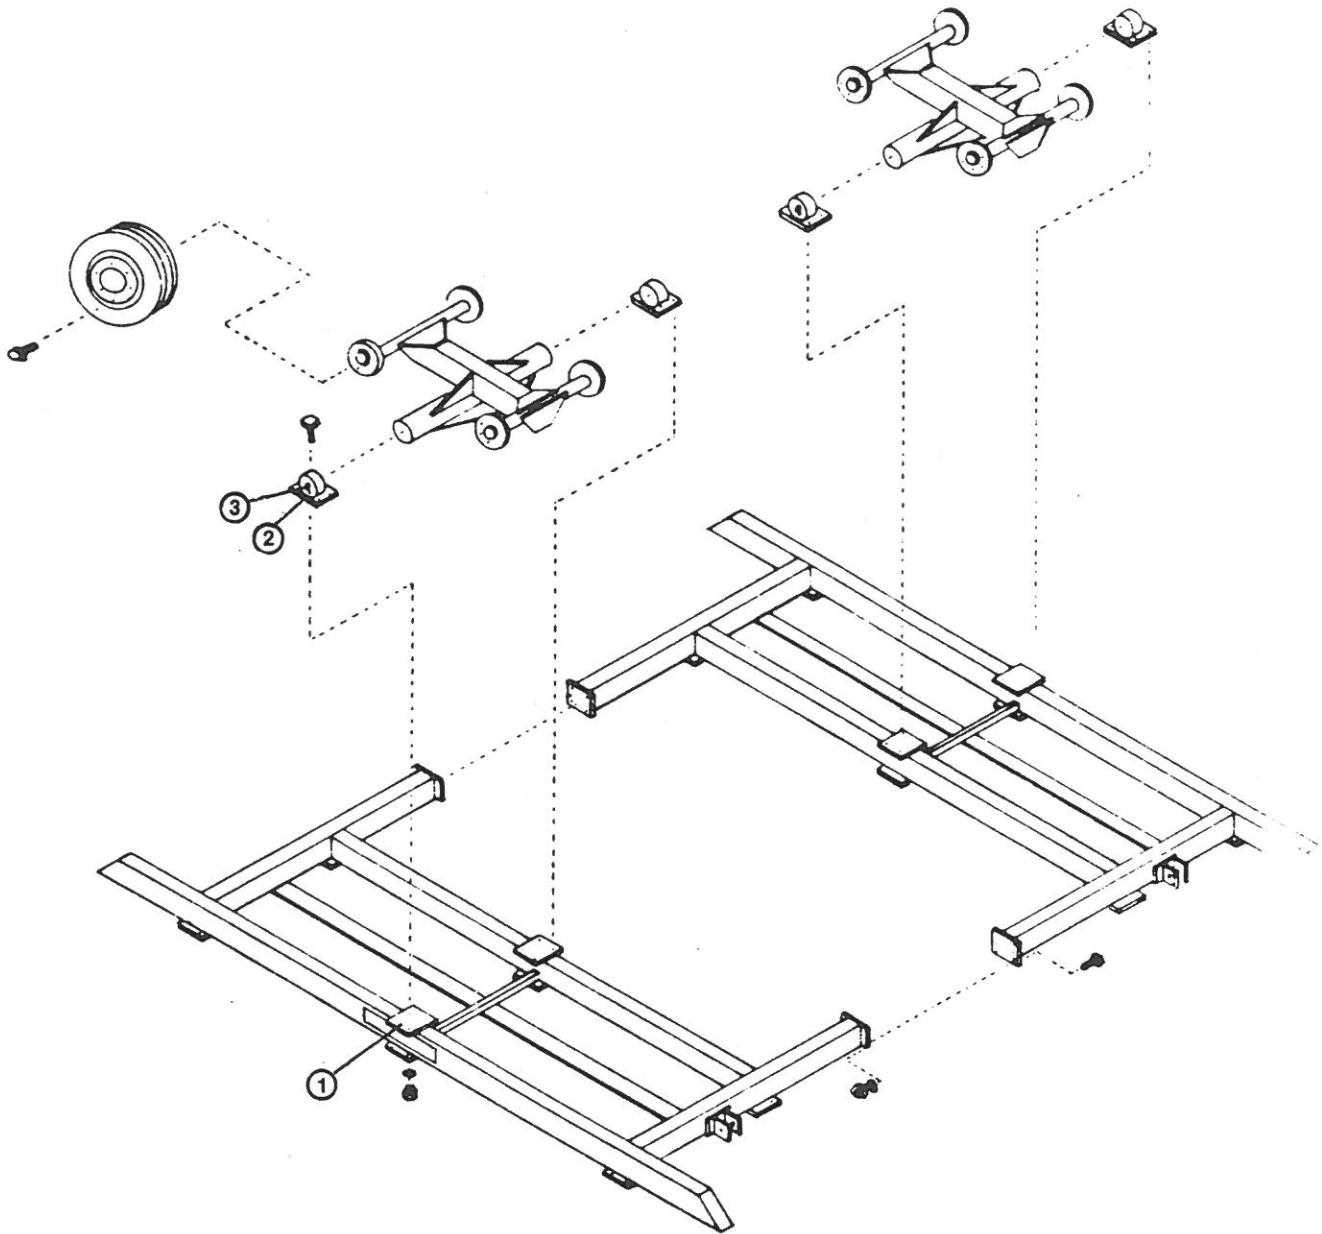

FIGURE 1: Sub Frame Assembly
To assemble oscillating tandems to sub frame refer to figure 1, and proceed as follows;
2. With oscillating tandem assembly inverted, see figure 1, position pockets #2 onto axle assembly. Ensure that the bolting plates #1 are facing upwards. Install grease nipples #3.